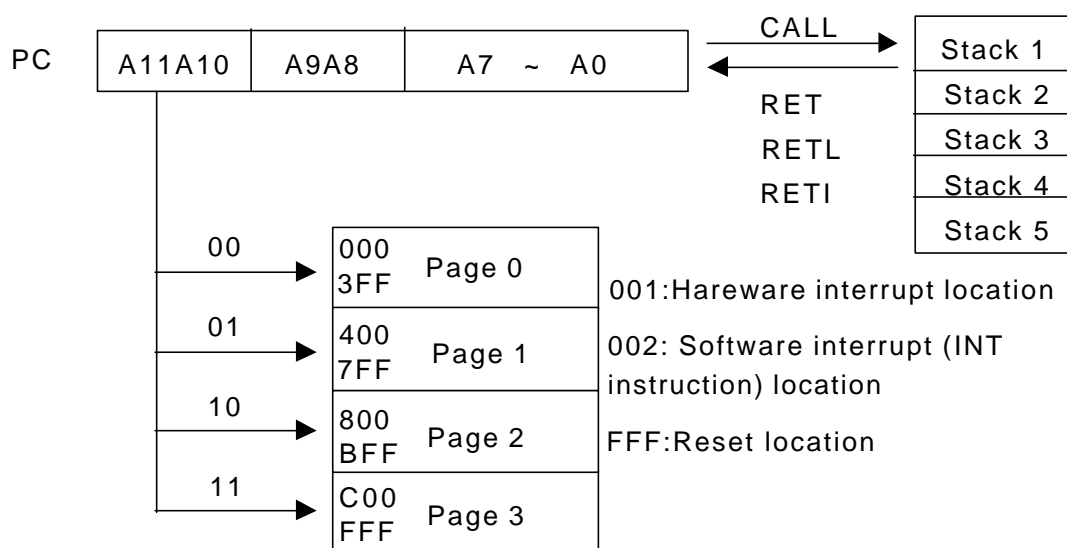

Fig. 3 Program Counter Organization
- Depending on the device type, R2 and hardware stack are 12 bits wide. The structure is depicted in Fig. 3.